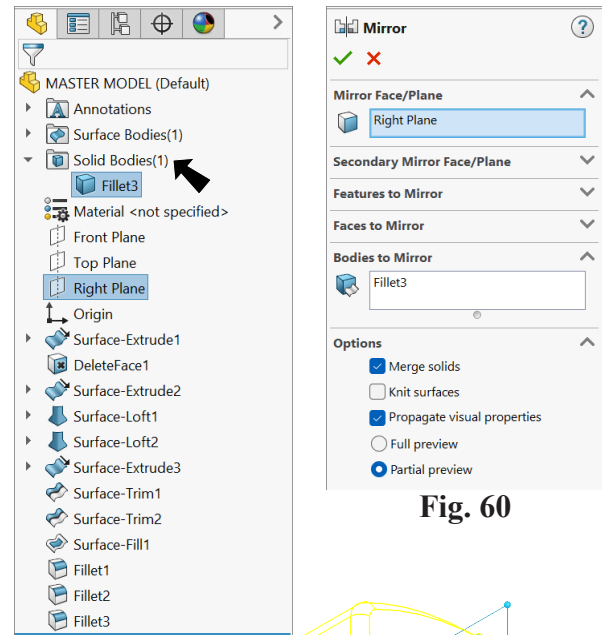

Fig. 59
Step 1. Expand Solid Bodies folder in the Feature Manager. **Ctrl click Fillet3 body and Right Plane** to select body and plane, Fig. 59.